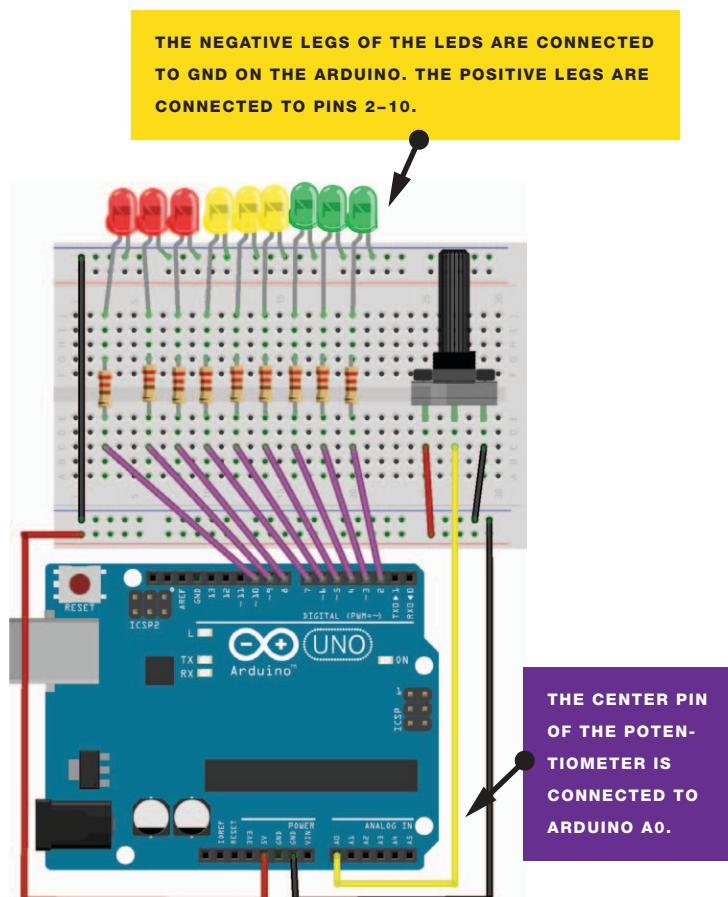

FIGURE 3-2:
2. Insert a 220-ohm resistor for each LED into the breadboard, with one resistor leg connected to the positive LED leg. Connect the other legs of the resistors to digital pins 2–10 in sequence, as shown in Figure 3-2. It's important that the resistors bridge the break in the breadboard as shown.